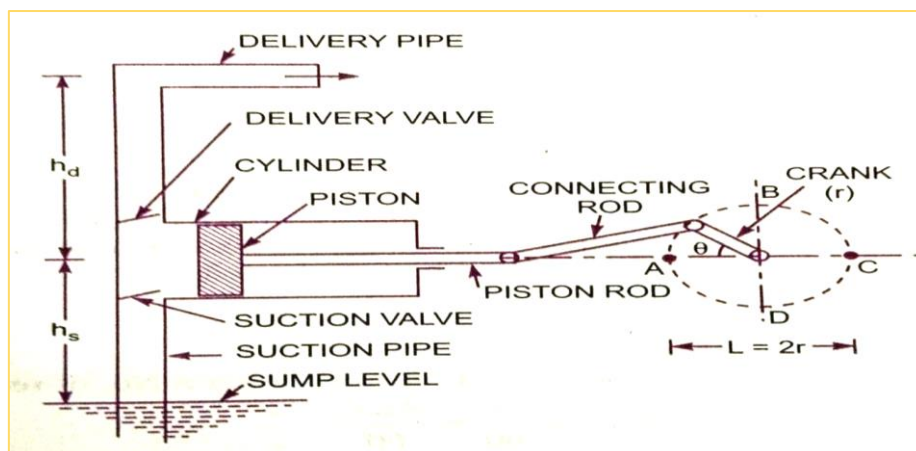

Figure 9: Reciprocating pump setup
- Calculate the actual discharge, input power, output power, using the experimental setup, shown in figure 9.
- Now calculate the output power. Calculate Efficiency (η) using the experimental setup, shown in figure 9.